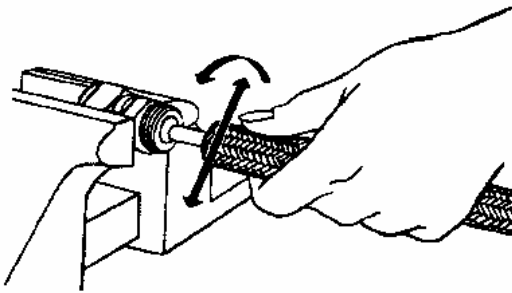

Figure 2. Sizing Hose
- Push one end of hose into nipple to size inner tube and to aid in separating wire braid from tube (Figure 2).
i. Push one end of hose into nipple to size inner tube and to aid in separating wire braid from tube (Figure 2).